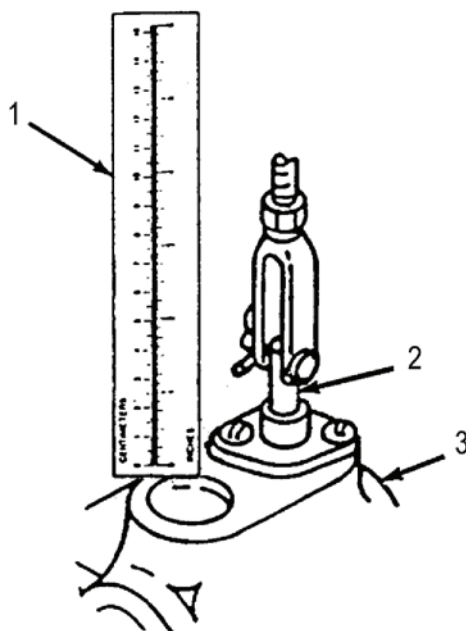

Figure 5. Control Valve Linkage
- Hold measuring device (Figure 5, item 1) on face of SPRUNG/UNSPRUNG control valve (Figure 5, item 3). Have assistant move SPRUNG/UNSPRUNG lever between SPRUNG and UNSPRUNG mode. Measure distance plunger (Figure 5, item 2) travels as lever is moved. Distance of travel should be 9/32 in. (7 mm).